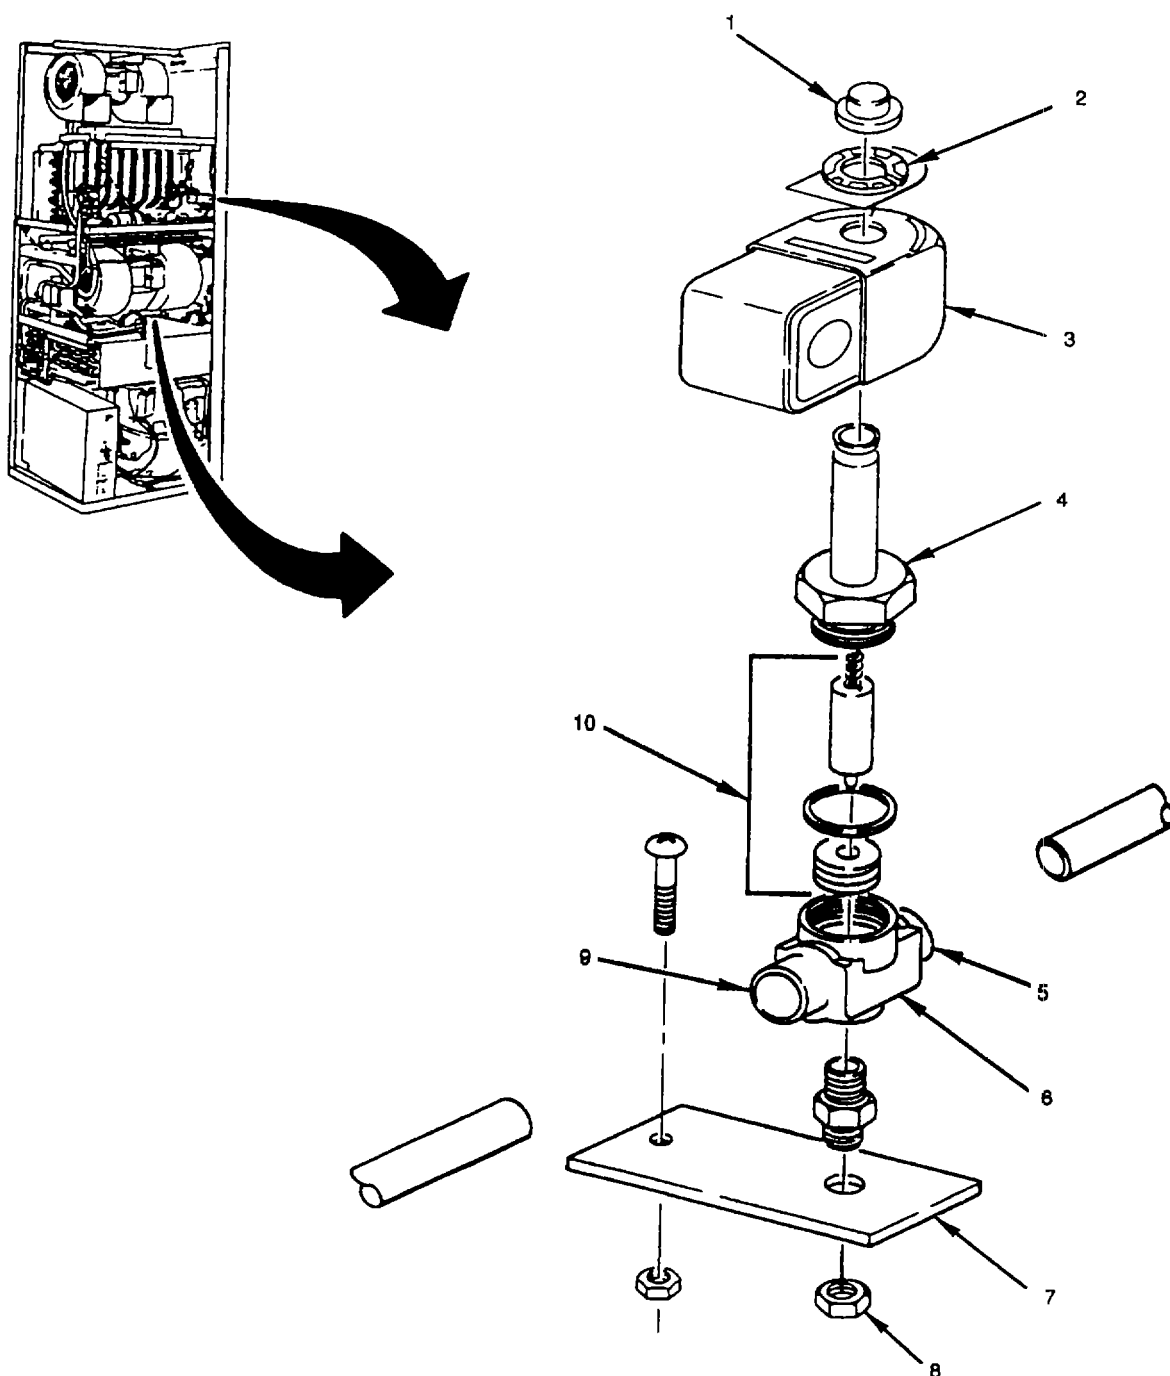

Figure 5-20. Solenoid Valves (L1 and L2)
- a. Check for damaged parts of frayed wires (see fig. 5-20).